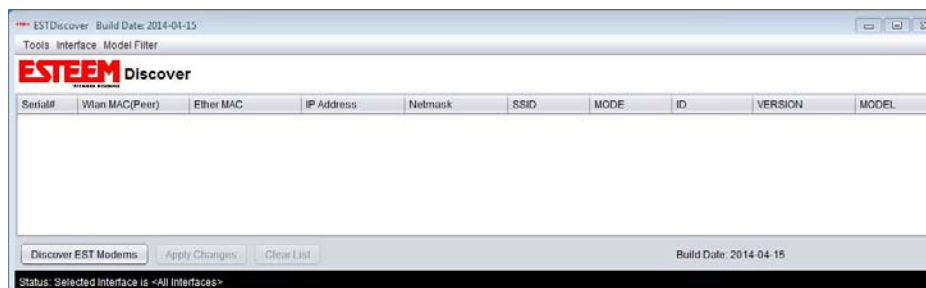

Figure 3: ESTeem Discovery Utility
- Once both the above programs have been installed, click on the ESTeem.exe program (Step 2 above) and Figure 3 will be displayed.